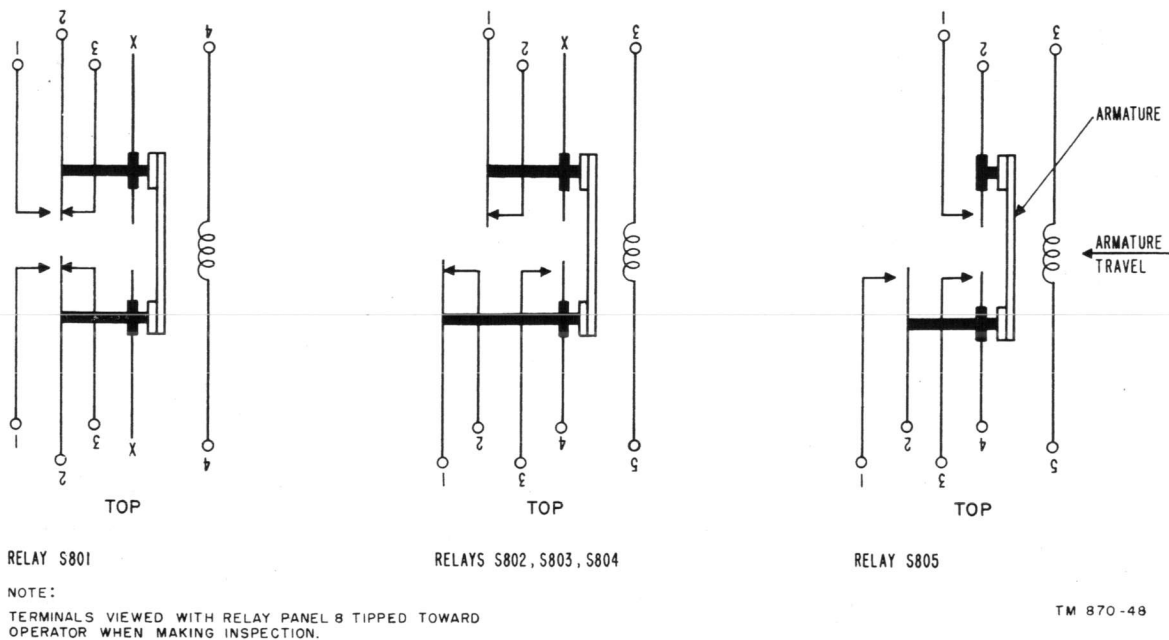
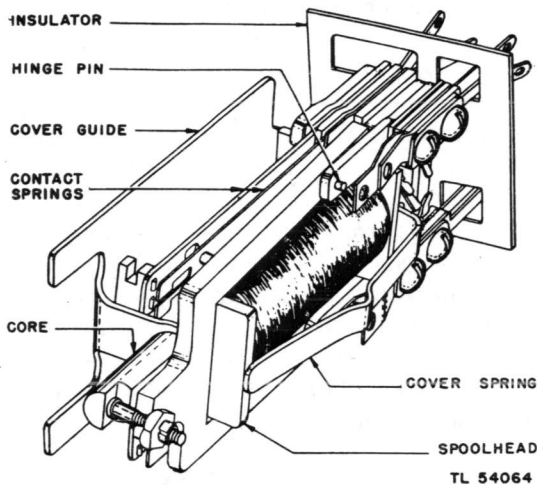

Figure 56. Location of terminals and spring combinations of relays.
Figure 57. U-type relay.
f. This paragraph and paragraphs 111 through 114 contain detailed descriptions for performing the electrical and mechanical adjustments of the U-type relays, S802 to S804, used in the receiver. Figure 56 shows the relay terminals viewed from the base side of the relay, and the arrangement
of the contact springs. The top of the relay is shown at the bottom of figure 56 because the relay panel (8) has to be tipped toward the operator and down when an inspection is being made. The U-type relay used in this receiver is a quick-operating relay with twin sets of contacts on each pair of mating springs. The contact springs are numbered consecutively from left to right facing the contact side of the relay, and from right to left facing the terminal side of the relay (with the top of the relay up). The U-type relays have the same basic construction and the same general requirements and adjusting procedures as other types. One spring of each pair provides the means for setting the contacts so that both pairs make and break at approximately the same point of spring travel. Use of twin contacts provides greater protection against failure caused by lint or dirt between the contacts, provided the springs are properly adjusted so that parallel contacts are made at the same time. The armatures of these relays are not rigidly fastened at the rear as in some other types of relays, but are held in place by hinge pin bearings (fig. 57). In this type of construction, the armature is not rigidly positioned unless the relay is energized. Therefore, the armature must be operated electrically rather than mechanically, to insure accuracy of gaging. The WECO drawing ED45034-012 gives the requirements of the relays used in R-369/FRC-10.